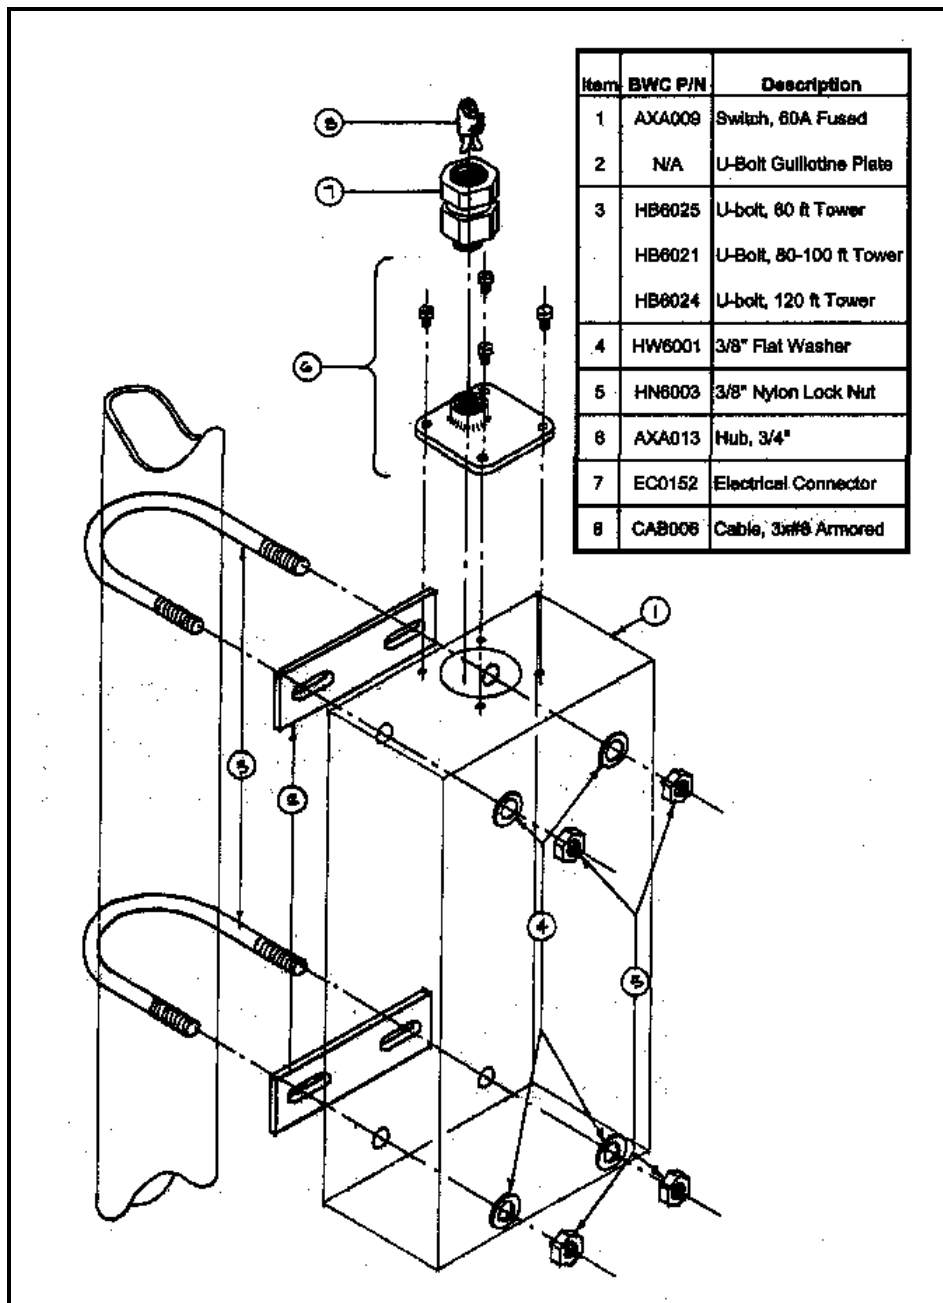
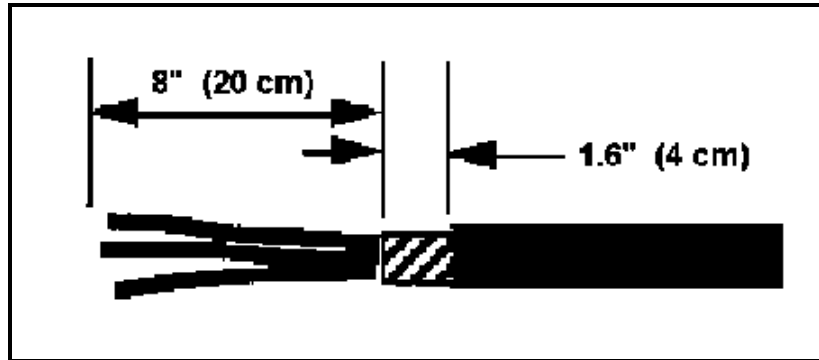

Figure 16. Attachment of Disconnect Switch
Figure 18. Armored cable end preparation
2. Attach the disconnect switch to the appropriate tower leg using the two U-bolts supplied with the tower wiring kit. If a wiring kit was not purchased from BWC, the customer must supply the appropriate switch, and all hardware required to make mechanical and electrical connections. (Refer to packing list Figure 2.) The switch box must be drilled to accommodate appropriate U-bolts. Locate the disconnect at a height suitable to the customer. **Figure 16** shows typical attachment of the disconnect switch.
- b. Strip the tower top end of the armored cable as shown in **Figure 18**, being very careful not to cut the insulation on the three conductors. A special tool may be purchased for this task at most electrical supply distributors.
11. Prepare the lower end of the armored cable as shown in **Figure 18** above, leaving enough free conductor to make the electrical connections in the disconnect box, and connect tower wiring to the disconnect switch. The BWC wiring kit includes a weather-tight hub for entrance into the top of the disconnect, as shown in **Figure 16**. The armored cable connector screws into the hub; an insulating grommet is not required.